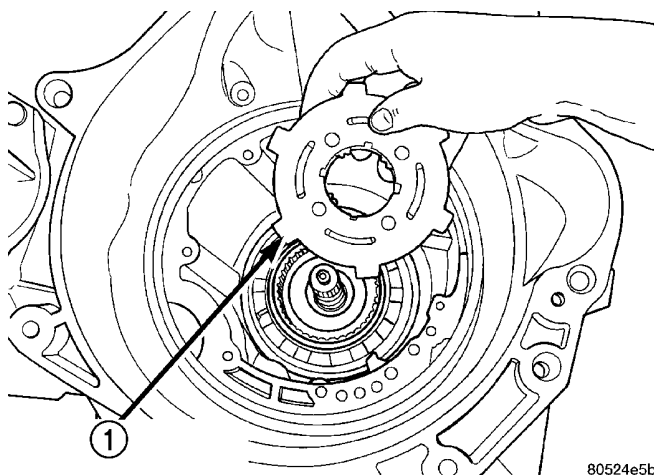

Fig. 39 Rear Planetary Gear Assembly
(39) Remove rear planetary gear assembly (Fig. 39).